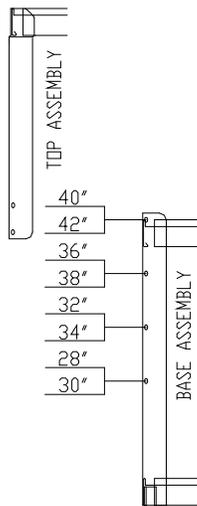

Figure 1
1. The AT2C-42JFS or AT2C-42JF tables may be assembled in any one of eight heights for optimum utilization. These heights are from 28" to 42", in 2" increments, based on the use of 4" casters. See Figure 1 for hole alignment.